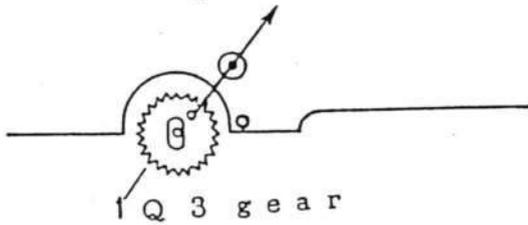

Fig.22
A. Mirror Box: Right (Fig.22,23)
- (1) Set the Q3 GEAR (No.1) as shown in Fig. 22.